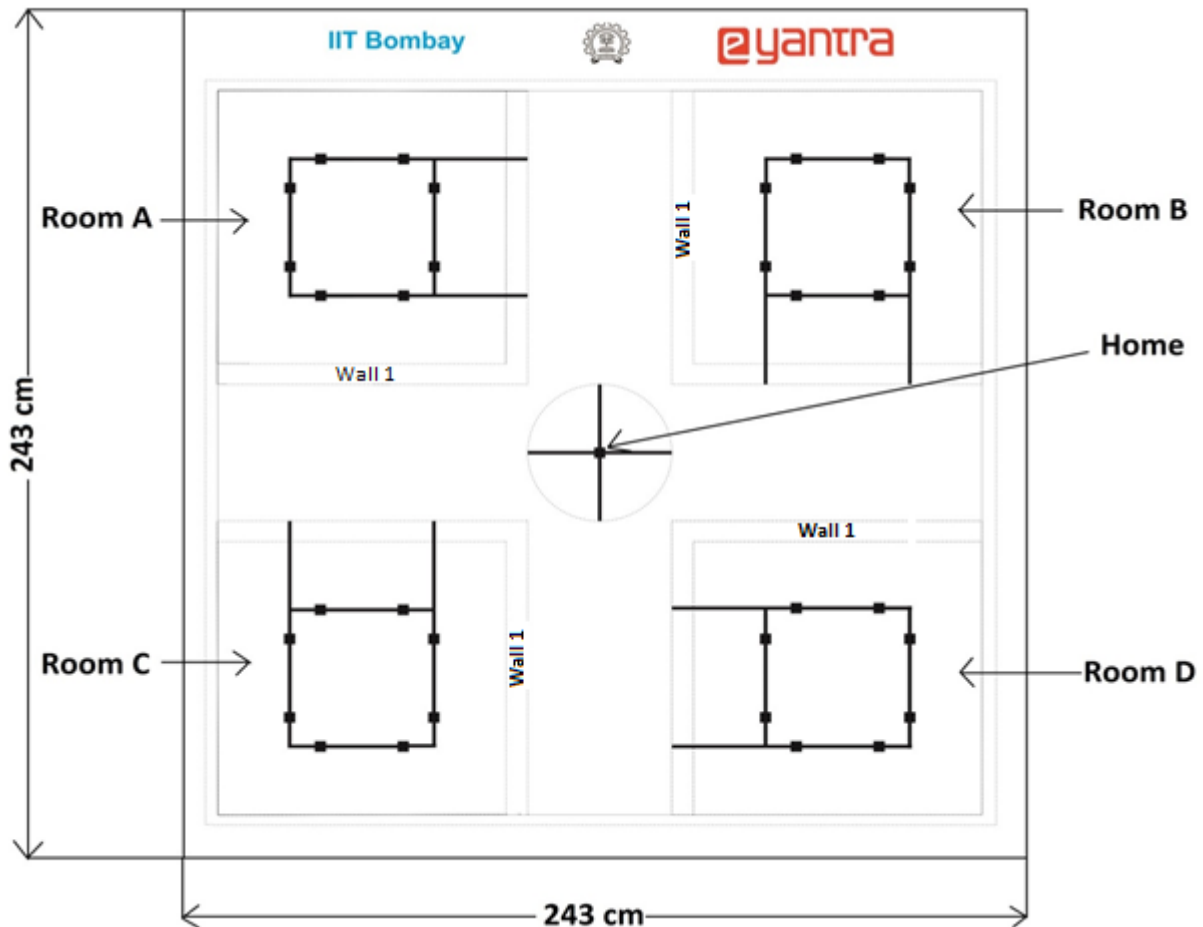

Figure 1: Flex Design
1. The robot starts from the **HOME** position in the center of the arena (Refer to Figure 1).
Flex design is shown in Figure 1. A Corel Draw (.cdr) file containing the flex design will be provided to the teams. Each team prints the flex design according to the direction given in the .cdr file.